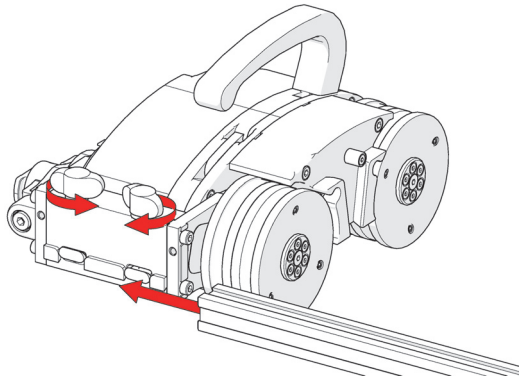

Figure 2-28 Frame bar installation
1. Rotate the two black wing knobs to loosen the dovetail jaws (see Figure 2-28 on page 68).